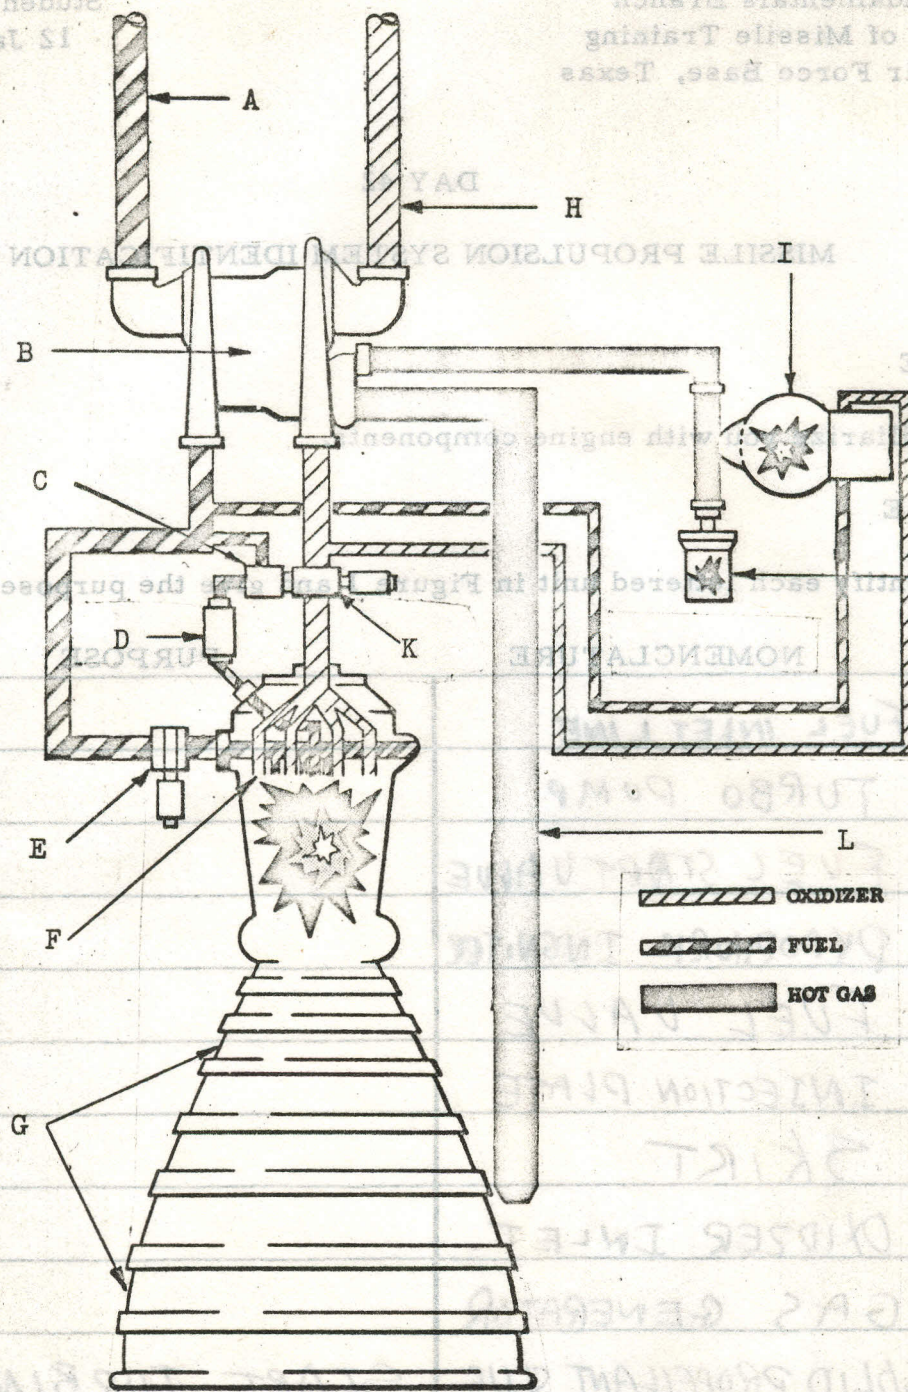

Figure 1
1. Identify each lettered unit in Figure 1 and give the purpose of each.